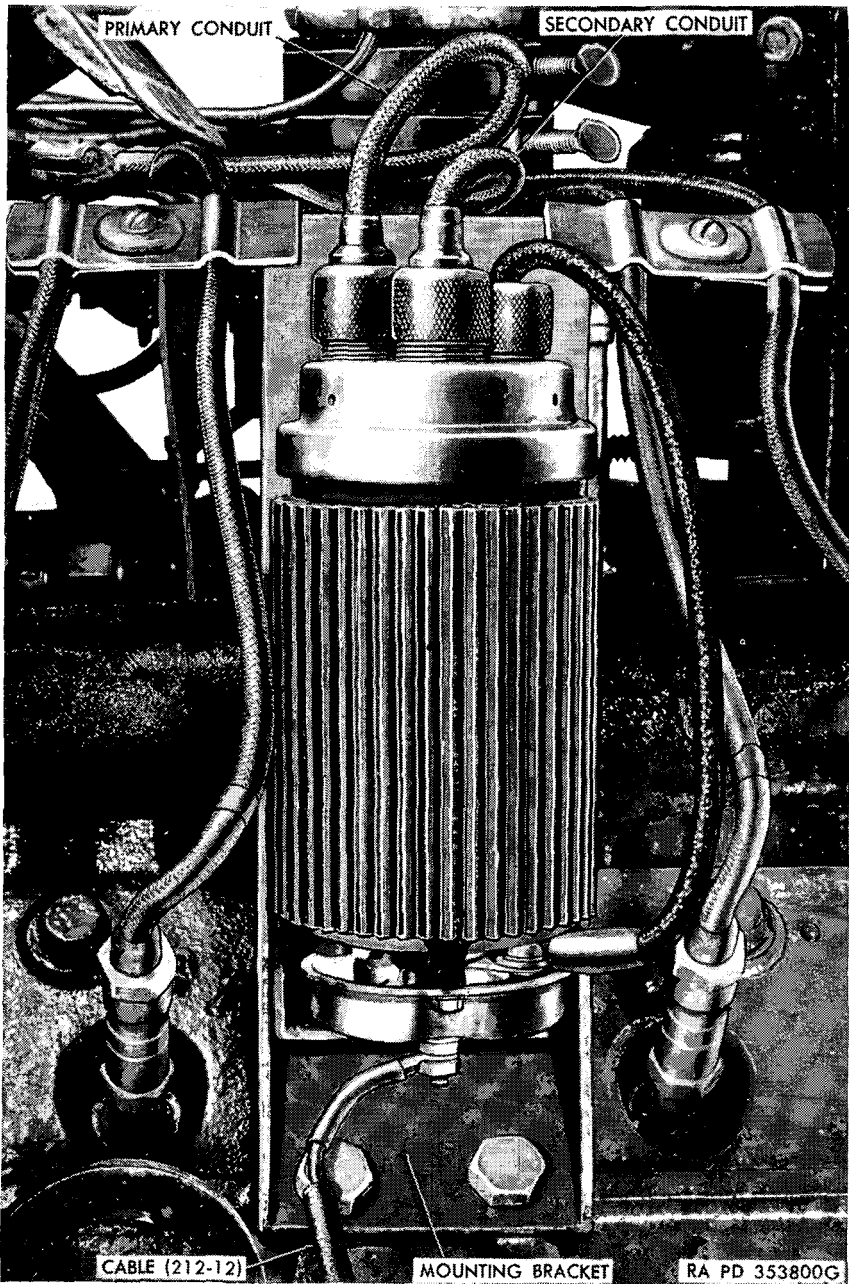

Figure 60. Ignition coil.
a. REMOVAL. Open engine compartment hinged door. Disconnect the primary and secondary conduits from top of coil by unscrewing the coupling nuts on the shielded cable (fig. 60). Disconnect the cable
b. **INSTALLATION.** Position coil on mounting bracket and attach securely with two cap screws and lock washers. Connect primary conduit (low-tension) to minus (–) tower and secondary conduit (high-tension) to center tower on top of coil. Tighten knurled coupling nuts only fingertight, plus one-half turn. Connect cable to resistor terminal at bottom of coil (fig. 60).